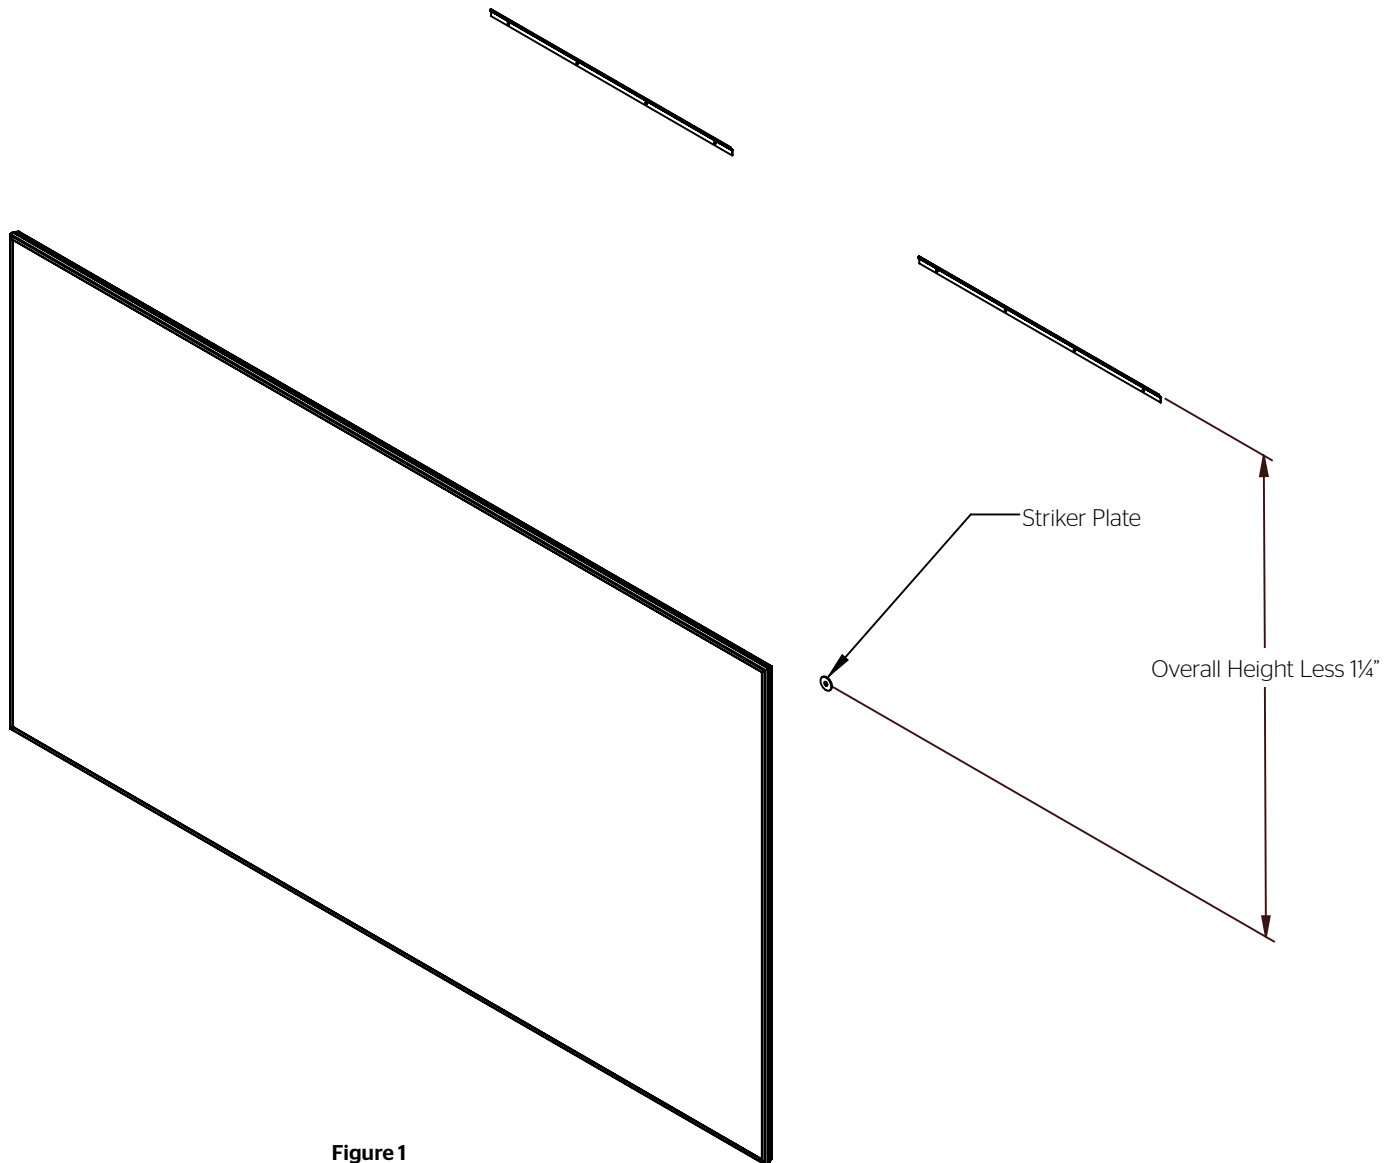

Figure 1
NOTE: The screen is shipped with two wall brackets. Screens in widths of 88 $\frac{3}{4}$ " and below receive (2) 28" wall brackets. Screens above 88 $\frac{3}{4}$ " in width receive (2) 44" wall brackets. Use appropriate mounting hardware for the wall type and to accommodate for the screen's hanging weight (Figure 1).
1. Secure the two wall brackets to wall studs at the desired height. The outside edge of each wall bracket must be no greater than 5" away from the left and right edges of the frame. You will need at least 2" clearance above the drilled holes to hang the screen (Figure 1).
2. To install the striker plate, take your screens overall height (including frame) and subtract 1 $\frac{1}{4}$ ". Using that dimension, measure down from the top edge of the wall brackets and mark the wall for a screw hole (Figure 1).